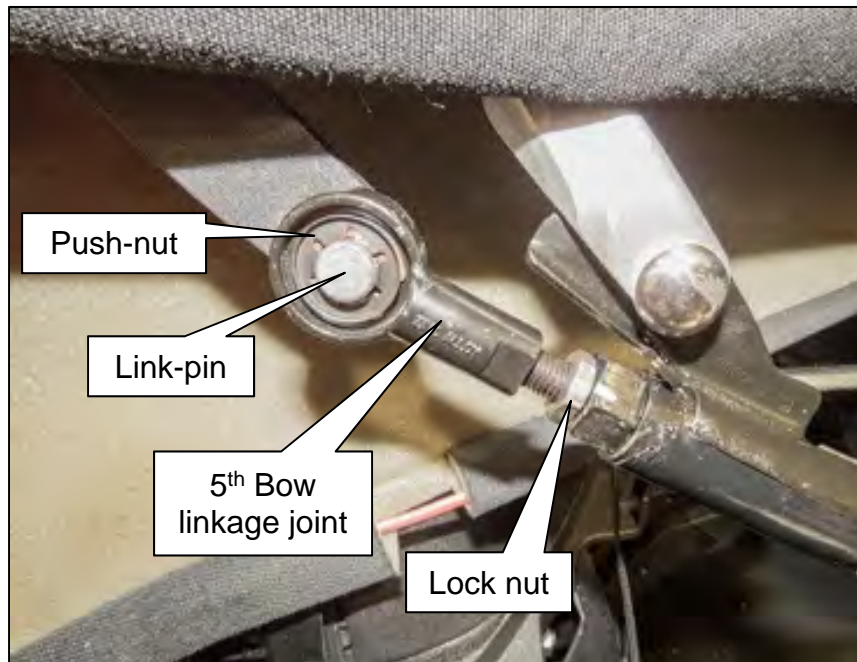

Figure 32
37. Remove the push-nut and then pull the link-pin out of the 5th Bow linkage joint (Figure 32).